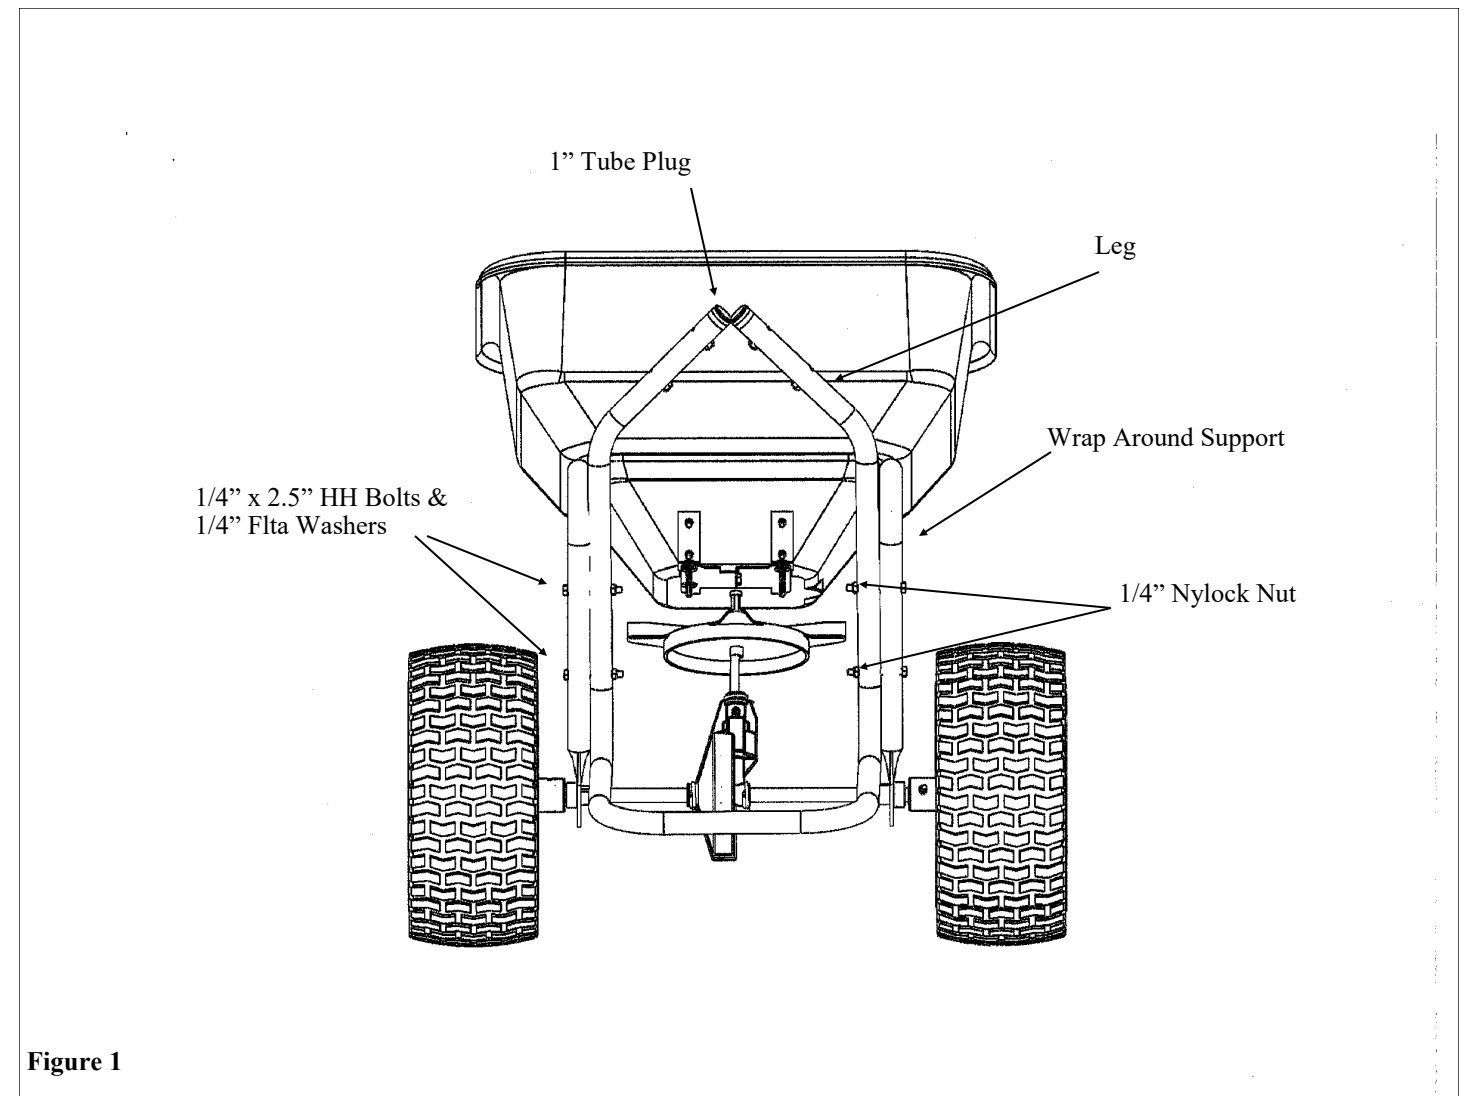

Figure 1
1. Attach the Leg to the Wrap Around Support, using four 1/4" x 2-1/2" Hex Head Bolt. Place a 1/4" Flat Washer onto a bolt, insert it through the Wrap Around Support, through the Leg and secure with 1/4" Nylock Nut. Complete the additional three bolts in the same manner. See Figure 1.